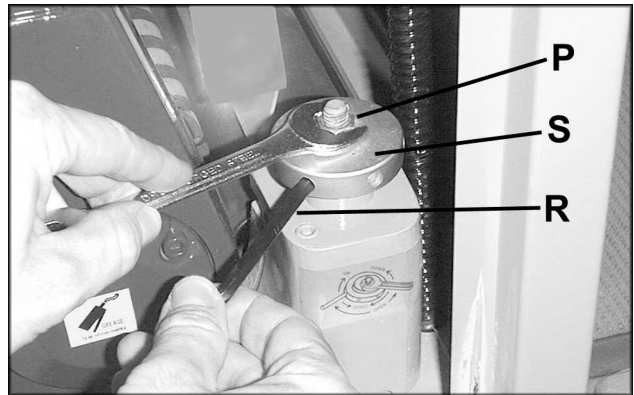

FIGURE 19
1. Release the locking nut (P, Fig. 19) with a wrench.
2. Insert a hex wrench (R, Fig. 19) or similar object into a hole in the adjusting knob (S, Fig. 19). With the hex wrench, turn the knob clockwise to raise the pressure bar. Turn in a counterclockwise direction to lower the bars. To ensure symmetry of both sets of bars, the recommended procedure is to use a gauge block on each end of both sets of bars.
3. When finished, re-tighten locking nut (P, Fig. 19).